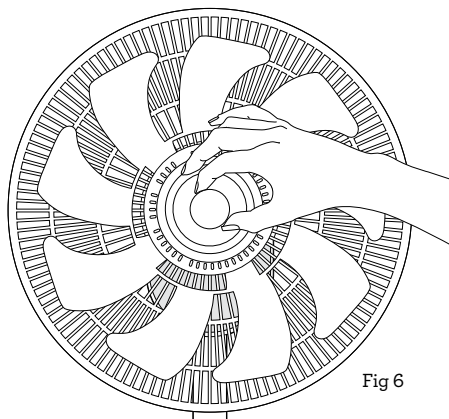

Fig 6
6. Refit and secure the blade cap onto the motor shaft by turning counter-clockwise (Fig 6). This should be done by hand. Do not use force.